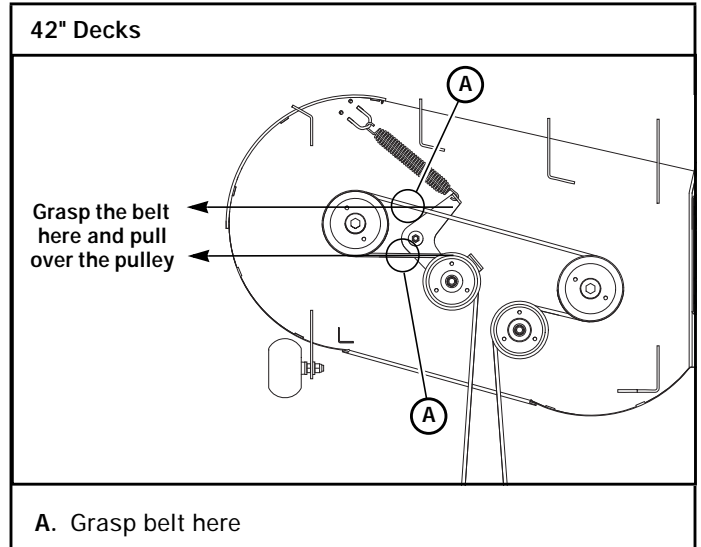
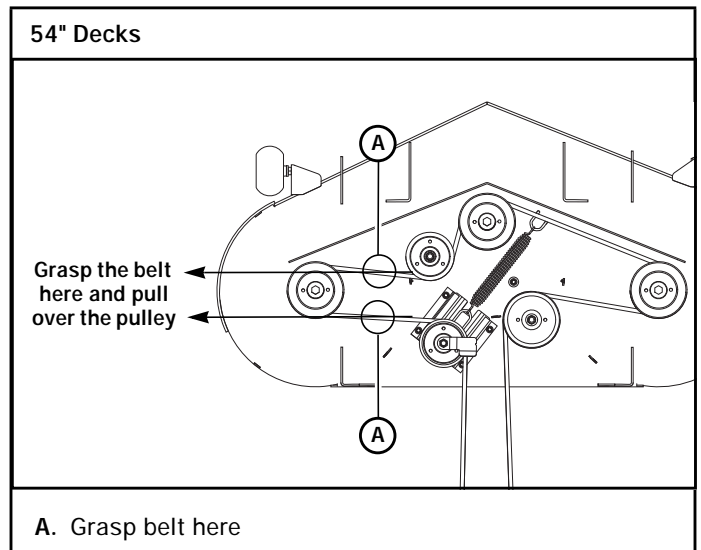

Figure 4-11
Figure 4-12
4. Grasp the belt at the two locations shown and pull the belt over the left spindle pulley. Figure 4-11 & Figure 4-12
- Re-tension the deck drive belt by pulling on the deck belt at the locations shown. Slide the deck belt over the left spindle pulley. Figure 4-11 & Figure 4-12